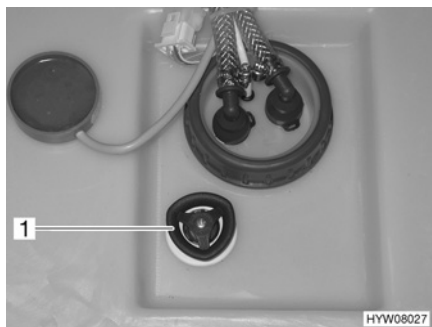

Fig. 103 Water tank with handle
- Turn the handle (Fig. 103,1) on the water tank in a clockwise direction as far as it will go.
- Turn the handle (Fig. 103,1) on the water tank in an anticlockwise direction as far as it will go. Excess water will drain away leaving approx. 20 litres in the tank.